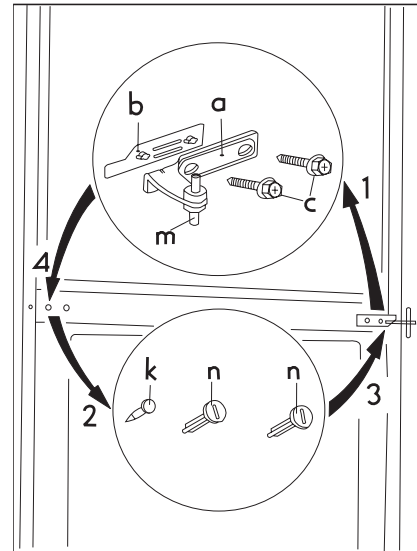

fig. 2.
3. Open the doors and dismantle the double door hinge (a,b) by removing the screws (2 pieces) (c). (fig. 2)
doors. Do not forget to remove the plastic spacer (b) under the hinge. (fig. 2)
14. Remove the covering pins (3 pieces) (n, k) of the double door holder on the left side and put them to the other side. (fig.2)
15. Fit the pin of the double door hinge (m) into the left drill of the freezer door. (fig. 2)